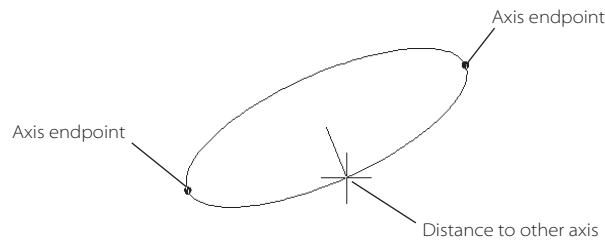

Figure 3.5
When drawing an ellipse, remember that it has a major axis and a minor axis, as shown in Figure 3.5. You'll see prompts that ask you to select an axis. It doesn't matter which axis you select first; it can be either the major axis or the minor axis.
2. At the Specify axis endpoint of ellipse or [Arc/Center]: prompt, click the first point defining one end of an axis of the ellipse, as shown earlier in Figure 3.5.
3. At the Specify other endpoint of axis: prompt, click another point for the axis, as shown earlier in Figure 3.5. You'll see an ellipse that is "fixed" at the two points you've selected. As you move the cursor, the ellipse changes shape to follow the cursor.